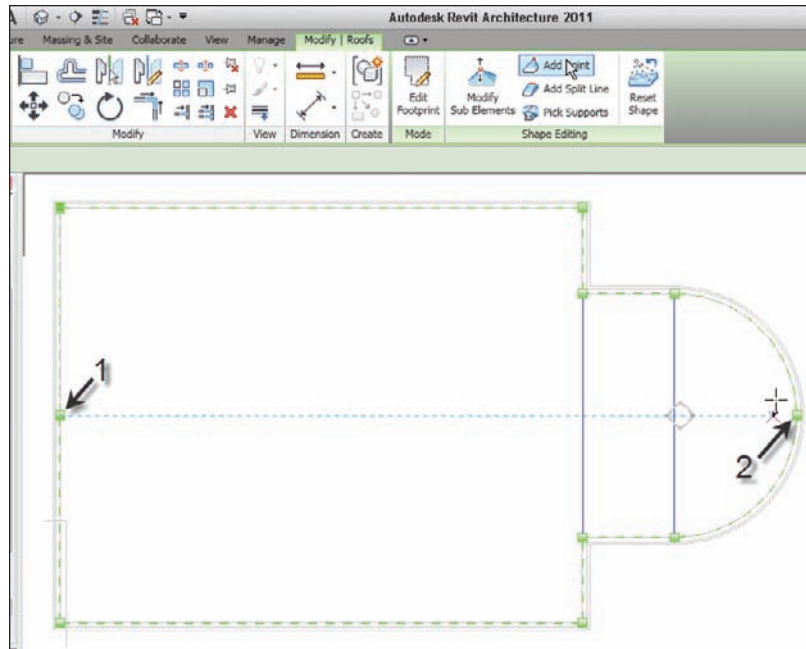

FIGURE 7.8 Adding two points
8. Click the Add Point button, as shown near the top of Figure 7.8.
9. Add two points at the midpoints marked as “1” and “2” in Figure 7.8.